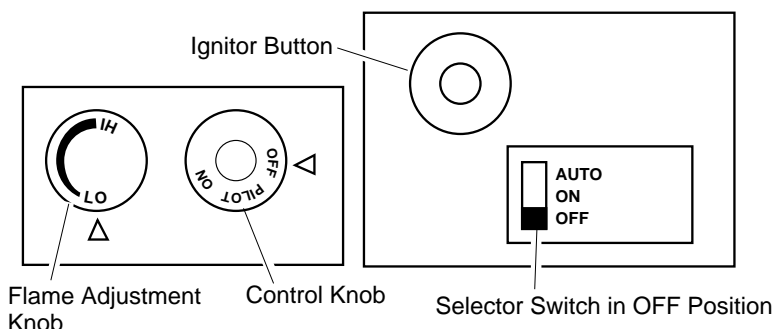

Figure 26 - Control Knob and Ignitor Button Location (Shown as Supplied, No Control Options)
5. Wait five (5) minutes to clear out any gas. Then smell for gas, including near the floor. If you smell gas, STOP! Follow "B" in the safety information. If you don't smell gas, go to the next step.
6. Press in and turn control knob counterclockwise  to the PILOT position. Press in control knob for five (5) seconds (see Figure 26).